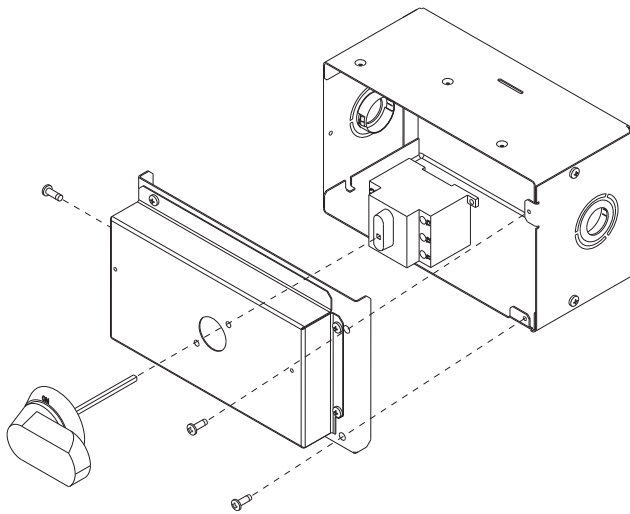

Fig. 28 — NFD Handle and Shaft Assembly
2. Remove (3) cap head screws that secure the NFD enclosure front cover — (2) on the face of the cover and (1) on the left side cover. See Fig. 28.
5. Insert the shaft with the cross pin on the top of the shaft in the horizontal position. See Fig. 28.
10. Secure the handle to the painted cover with (2) screws and lock washers supplied.
11. Engaging the shaft into the handle socket, re-install (3) cap head screws on the NFD enclosure.